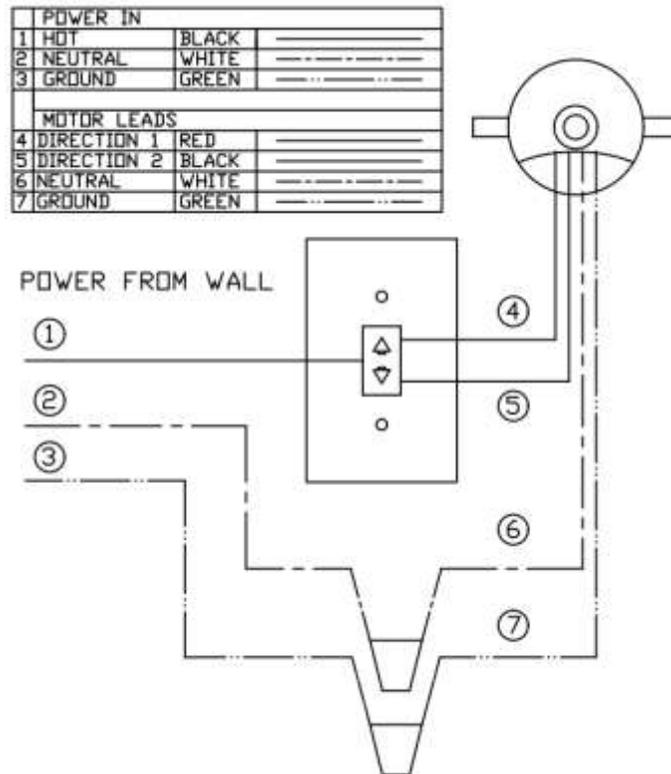

FIGURE 5
10. Wire the motor and incoming 120 VAC +/- 5% line to the control station. (See Fig. 5).